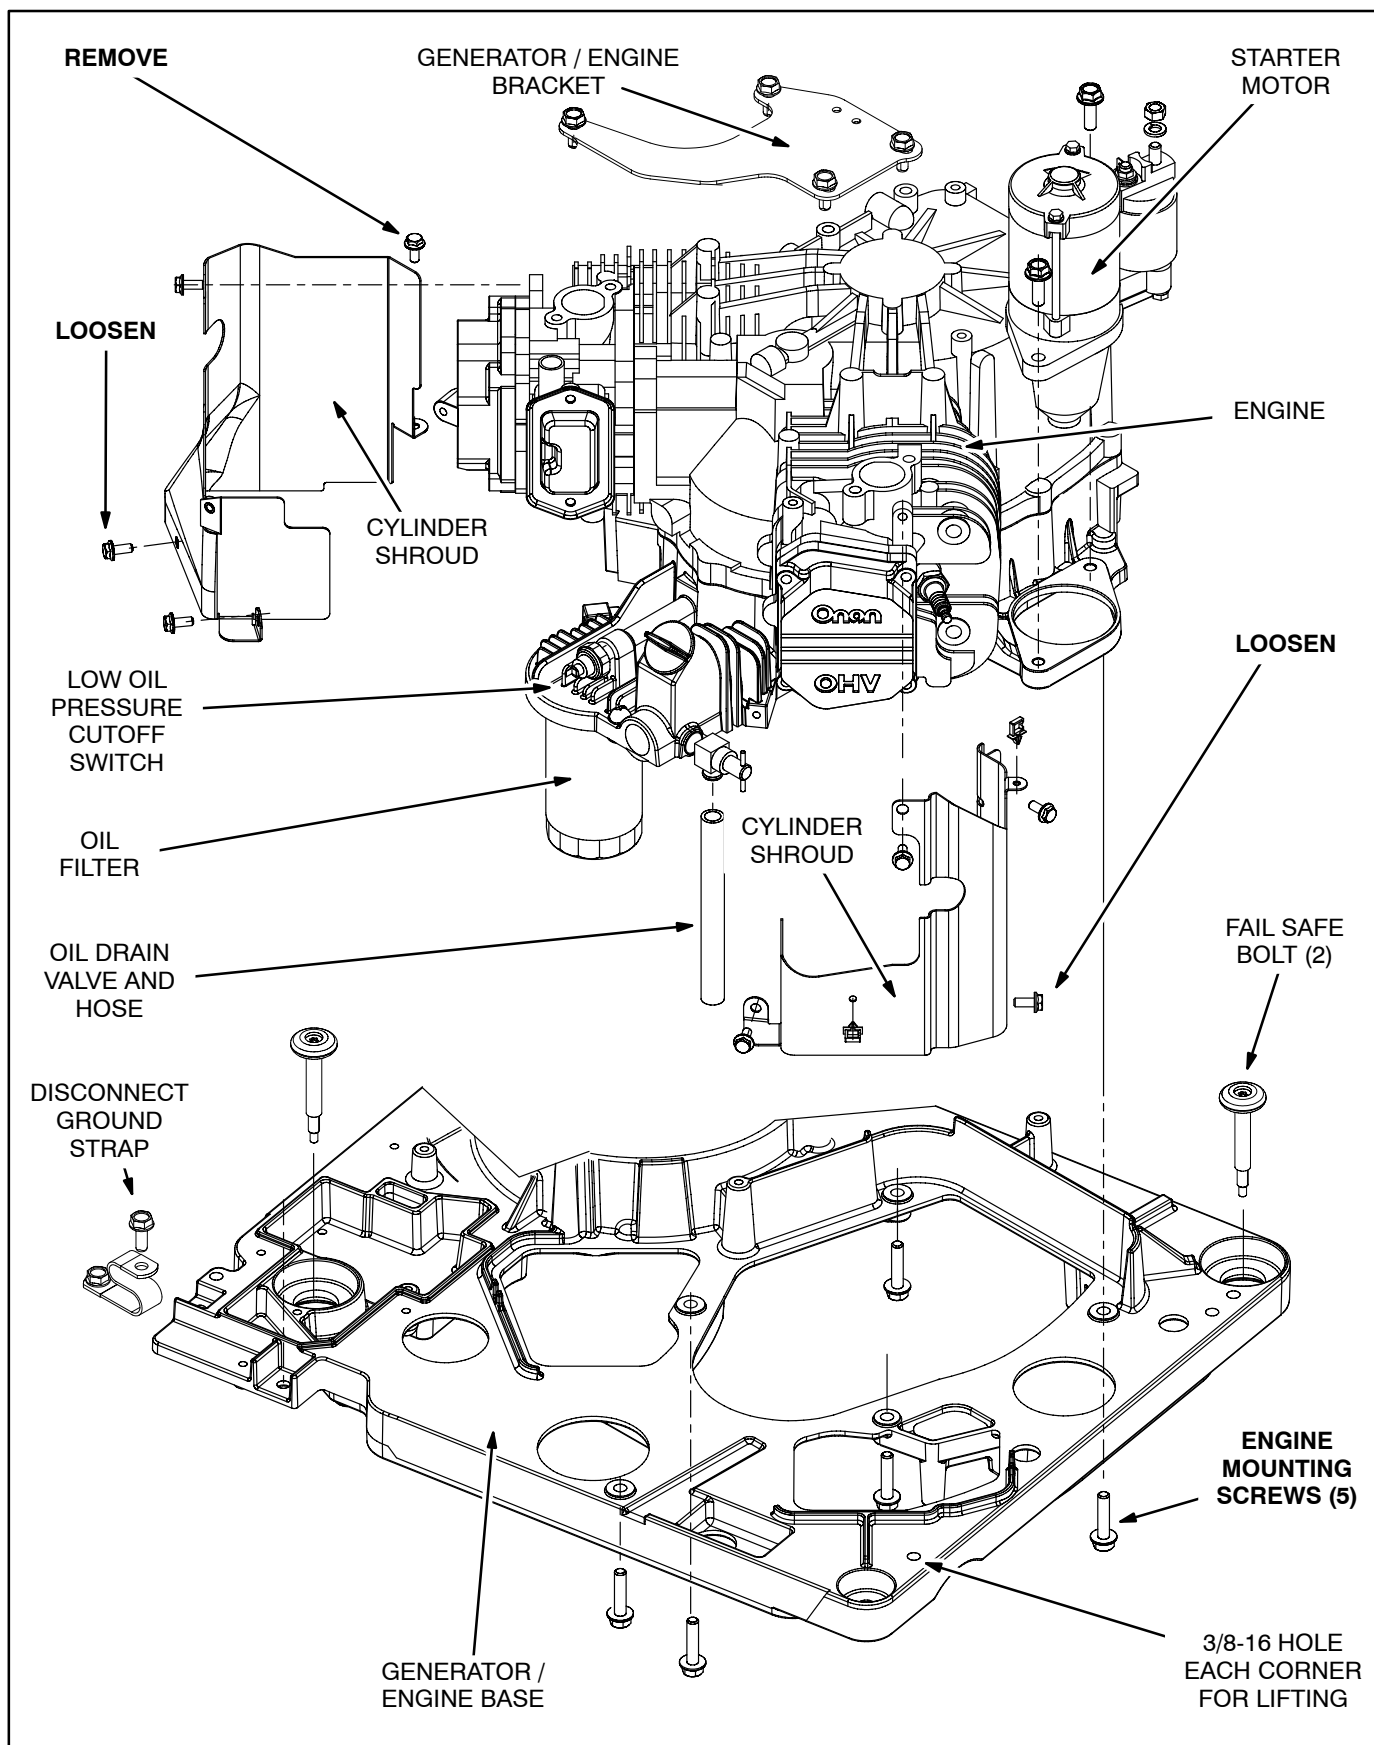

FIGURE 9-1. ENGINE
Figure 9-1 illustrates how the engine is mounted on the generator/engine base. The flywheel, exhaust manifold and mounting bolts are accessible for removal on the bottom side of the base.
1. Unless it has already been performed, disconnect all wiring from the engine, remove the generator/engine bracket and loosen or remove the cylinder shroud screws shown in Figure 9-1.
To remove the starter motor (Figure 9-1), disconnect all wiring and remove the two mounting screws. Follow instructions in the starter motor kit if the starter is to be repaired. When installing a starter motor, torque the mounting screws to 20 lb-ft (27 N-m) and the terminal nut to 6.5 lb ft (8 N-m).